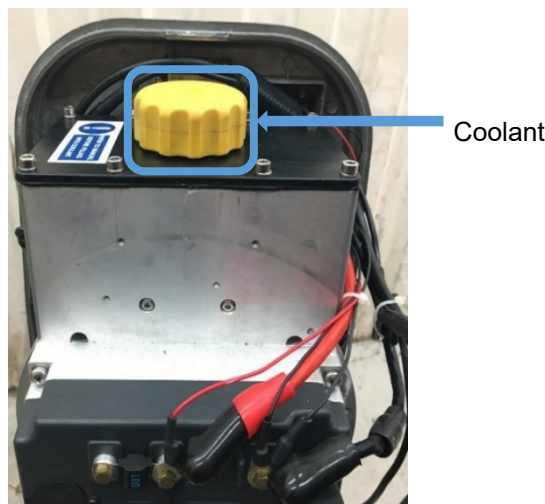

Figure 12: Coolant Cap
- Remove the coolant cap from the outboard motor. (**Figure 12**)